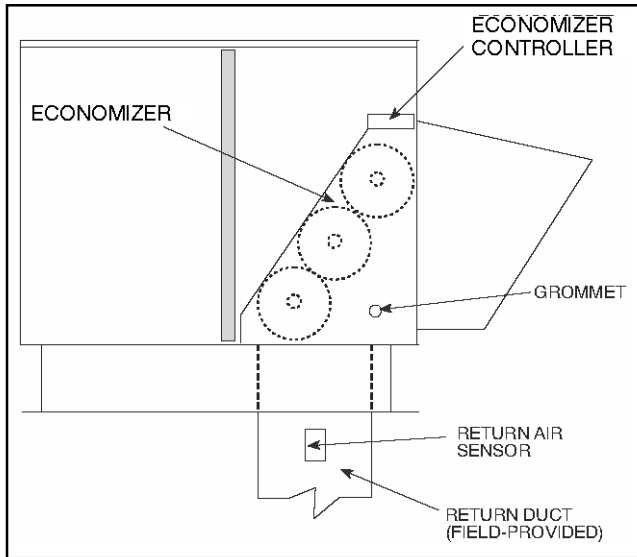

Fig. 8 – Return Air Enthalpy Sensor Mounting
2. Using the screws provided in the DNENTDIF004A00 kit, mount the differential enthalpy sensor in the return air duct as shown in Fig. 8.